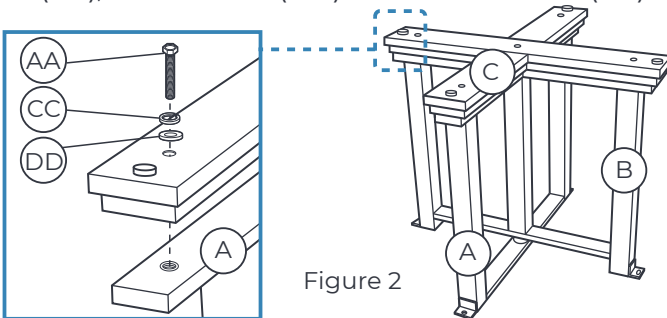

Figure 2
See Figure 2. Put the table base (C) above the leg and leg connector (A and B) and match up the holes in the table base (C) with those in the leg and leg connector (A and B). Use the wrench (FF) to attach the table leg and leg connector (A and B) to the table base (C) with 5 M8x70 bolts (AA), M8 washers (DD) and lock washers (CC).